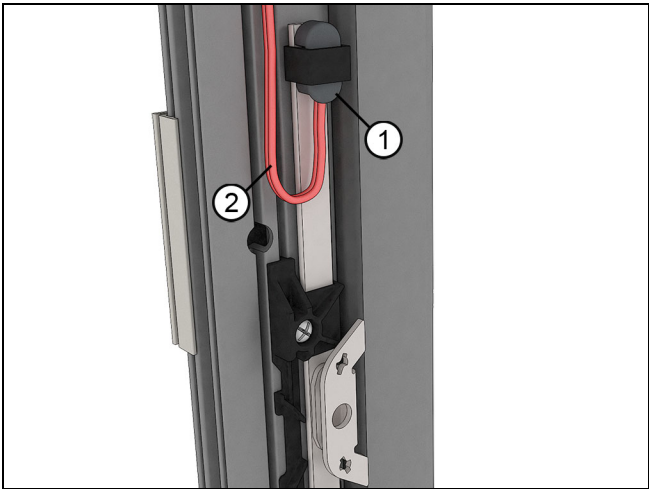

Figure 36
1. One sensor is embedded in the frame, behind the locking jamb cover. It is attached to the top of the tie bar on the locking jamb. On Awnings, the sensor will always be located on the right jamb tie bar (as seen from the interior). See Figure 36.